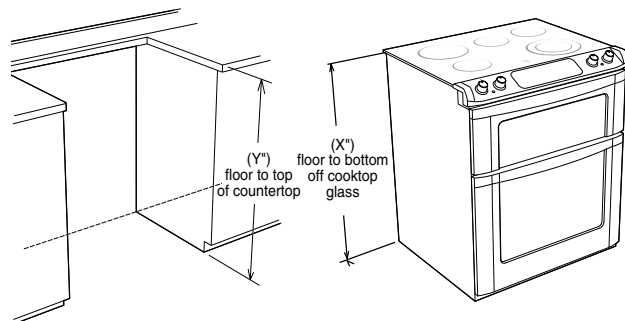

Figure 17
- Adjust the back leveling legs with an adjustable wrench or pliers. Measure from the floor to the bottom of the cooktop glass (X) and adjust the legs to match the measurement (Y) taken from the cutout. See Figure 17.